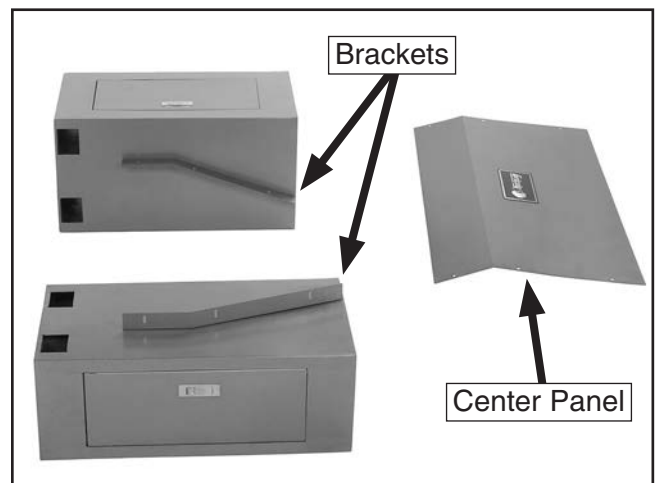

Figure 8. Center panel brackets installed.
2. Attach the center panel brackets to the inside of the cabinets with six M6-1 x Phillips head screws and flat washers, as shown in **Figure 8**.